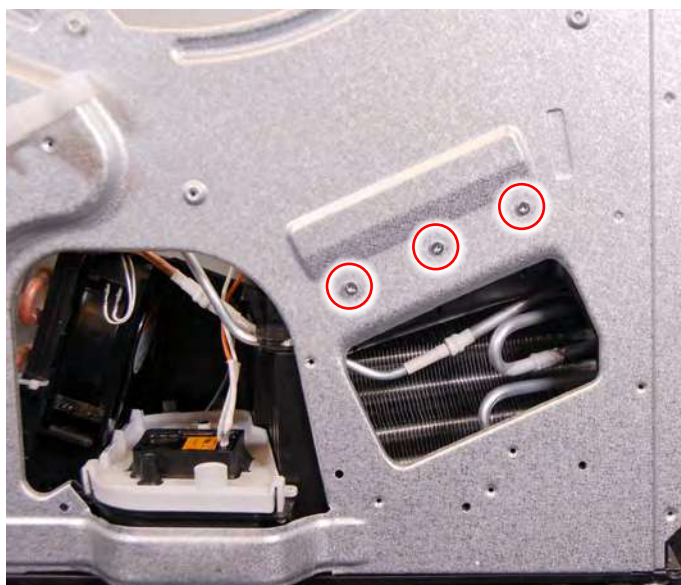

Figure 7
15. Use a T20 Torx driver to remove the three (3) screws securing the rear panel to the base assembly (as illustrated in Figure 7). Remove rear panel from base assembly.